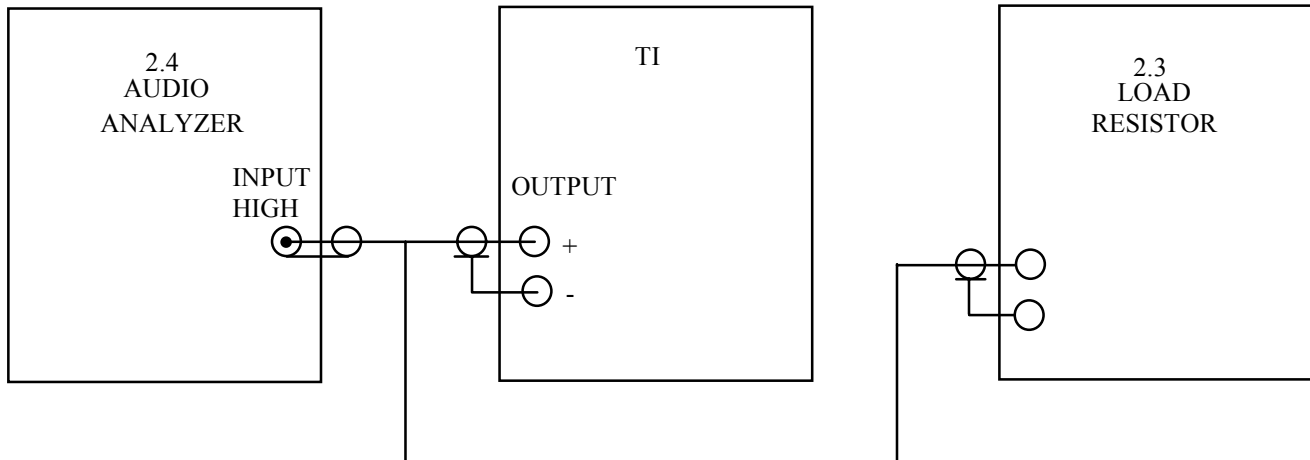

Figure 1. Ripple Test Configuration
4.2.1 Using shielded cables connect the audio analyzer (item 2.4), load resistor (item 2.3), and TI as shown in Figure 1. Connect all test equipment to power and allow for a sufficient warm-up time.